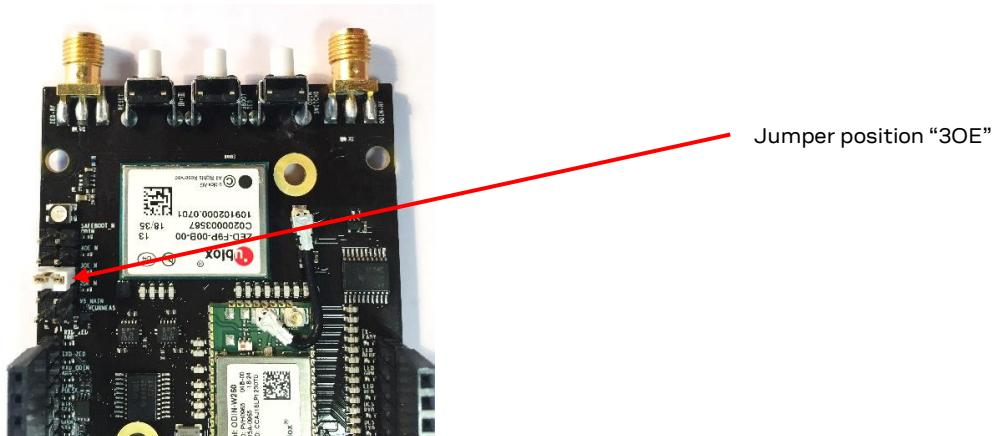

Figure 19: C099-F9P rover jumper position
The ODIN-W2 module communicates with the ZED-F9P via a serial port which is shared with the FTDI USB/COM port via multiplexors. Once Bluetooth communication is established with the ODIN-W2, a jumper connection should be made at position "3OE" to connect the serial ports of the ZED-F9P and ODIN-W2 together. See Figure 19 below.
- ☞ Place a jumper at position “OE3” as shown in Figure 19, this will connect the ODIN-W2 and ZED-F9P UARTs to provide transmission of RTCM messages to the rover.